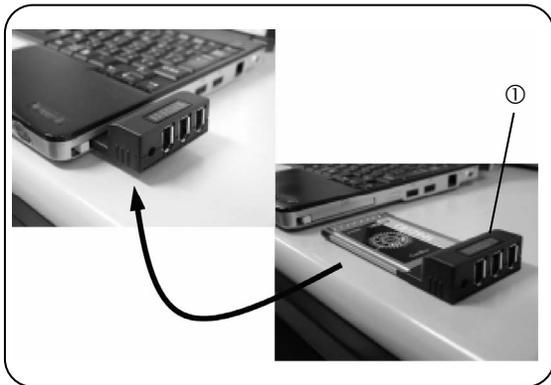

Fig. 1
#### ①-a Mounting of IEEE1394a PC Card (Only Laptop PC) (Fig.1)